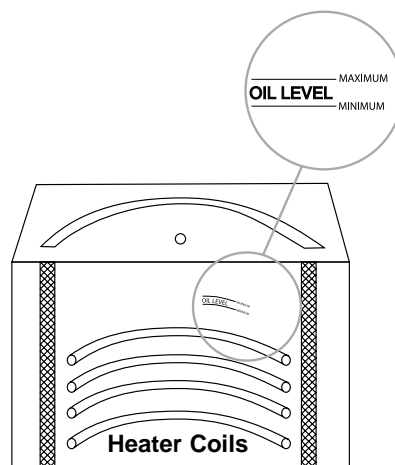

FIGURE 5
5. **Add Cooking Oil** - Liquid or solid cooking oil may be used. Melt solidified cooking oils in tender or other means and pump into fryer. Add enough cooking oil to raise liquid to within one inch of Minimum oil level line (see Figure 5). As oil heats, it expands. Check level again once oil has heated to verify that level is between Minimum and Maximum marks. **CAUTION:** Cooking oil may be hot enough to burn you. Be careful when moving containers of liquid cooking oil.
DANGER: Do not turn on power unless all heater coils are completely covered by cooking oil. Fill shortening to a level between the Maximum and Minimum oil level lines found on the inside of the cookpot (see Figure 5).
16. **Oil Level** - Add or remove cooking oil so that it is at a level between the Maximum and Minimum Level marks. (Figure 5).